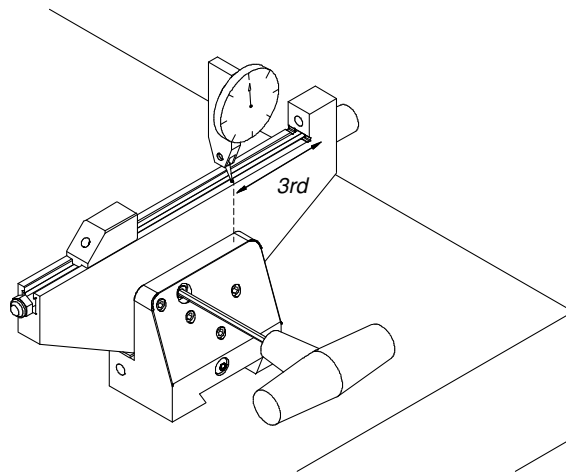

Figure 5
Loosen the TD02 by moving the torque handle upward. Remove the V08/TD02 and work piece off the MCD01 or PS01 and set the TD02 back on the surface plate as shown in Fig. 5.
STEP 9. (A). Place the indicator ball on the vise bed directly overhead of the pivot ball in the TD01 as shown in Fig. 5. **(B).** Zero the indicator. **(C).** Move the indicator ball to the end of the vise bed near the fixed jaw. **(D).** Adjust the cam until the indicator reads zero. If the cam is too tight to turn then loosen the two clamp screws 1/4 turn. If the clamp screws are too tight, then loosen the two jackscrews 1/8 turn. If it was necessary to loosen the jackscrews then true the 1st and 2nd axes again. The third-axis is trued.